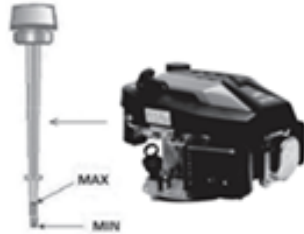

Fig. 6
4. Insert the cap again, wait a few seconds and check the oil level, if necessary top up. The oil level must be between the upper limit (MAX) and the lower limit (MIN), see Fig. 6.